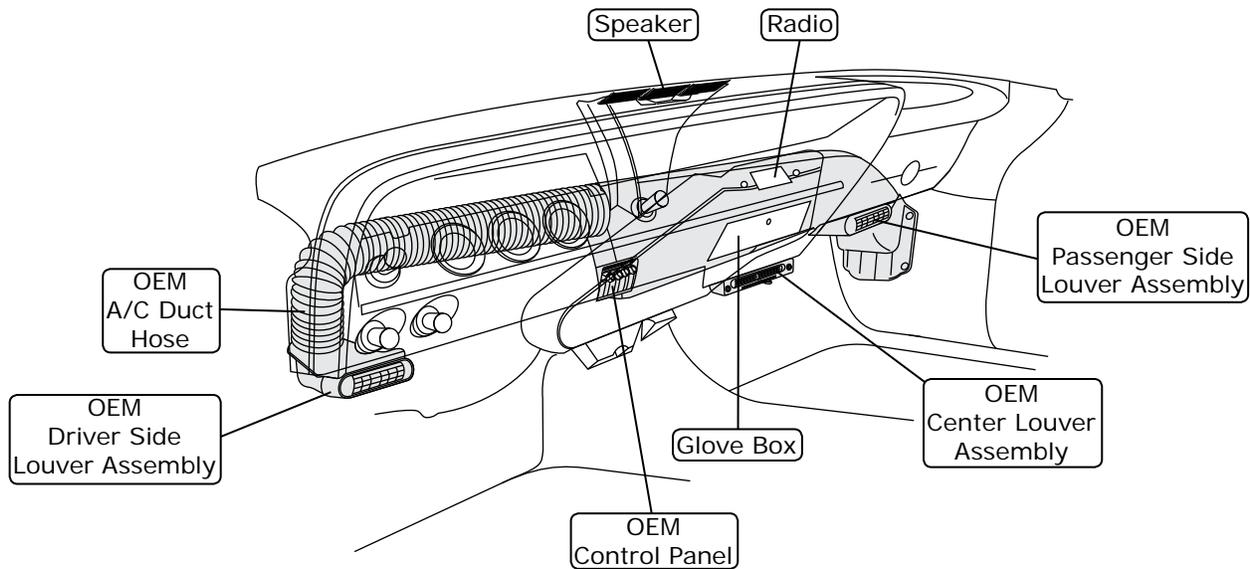

Figure 2
1. Remove the passenger side OEM A/C duct assembly (See Figure 2, below).
2. Remove the driver side OEM A/C duct and louver (See Figure 2, below).
3. Remove the OEM center louver assembly (See Figure 2, below).
4. Remove the OEM control panel assembly (See Figure 2, below).
5. Remove the OEM heater assembly (See Figure 2, below).
7. Remove the radio and speaker (retain) (See Figure 2, below).